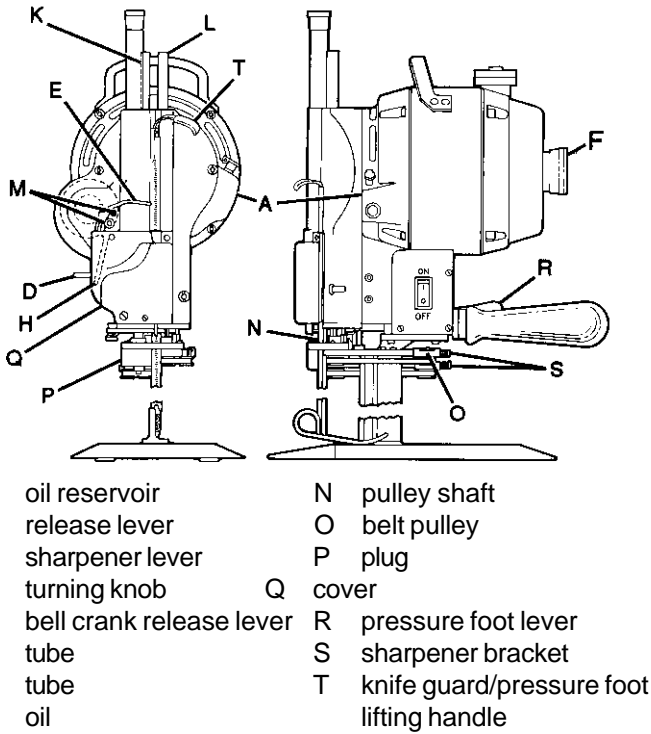

Figure 2. Controls and Adjustments
1. Check that the electrical supply current and voltage that the machine is connected to are the same as stamped on its name plate. For three-phase machines, also check that the direction of rotation is correctly set by the turning knob (Figure 2, F). Refer to the tag attached to all three-phase machines for detailed instructions.
3. Make sure that the sharpener is in the locked position. To do this, push in the turning knob (Figure 2, F). While depressing the turning knob, turn the machine over a few revolutions by hand to see if the knife reciprocates easily. If the knife does not move easily, the sharpener may be in the unlocked position.
4. To lock the sharpener in place, lift the release lever (Figure 2, D) and press the sharpener lever (Figure 2, E) to release the sharpener. Raise the sharpener bracket (Figure 2, S) by hand to lock it in place. Once the sharpener is locked in place, you may disengage the release lever and sharpener lever. Repeat step 3 to ensure that the sharpener is now locked. If not, repeat this step.
7.2 Press the bell crank release lever (Figure 2, H) to
2. Raise the knife guard/pressure foot by depressing the pressure foot lever (Figure 2, R) and lifting the knife guard/pressure foot lifting handle (Figure 2, T). Raise the pressure foot only enough to clear the material being cut.
4. Using the pressure foot lever (Figure 2, R) and the knife guard/pressure foot lifting handle (Figure 2, T), lower the pressure foot so that it is slightly above the material being cut. This will prevent the material from reciprocating.
6. When you are not making a cut, or when the machine is not in use, keep the knife guard/pressure foot lowered to the baseplate by depressing the pressure foot lever (Figure 2, R).
2. Make sure the knife guard/pressure foot is lowered to the baseplate by depressing the pressure foot lever (Figure 2, R).
Remove the cover (Figure 2, Q) and clean any lint from around the screw mechanism in the sharpener.
1. Place two drops of oil at each of the two locations shown in Figure 2, M. Use an oil can with a small spout. (A suitable oil can is furnished with the machine.)
2. Fill the oil reservoir (Figure 2, A) for continuous use. If you only use the machine intermittently, you can use less oil.
- Tubes at locations shown as Figure 2, K and L.
- Pulley shaft shown as Figure 2, N.
- Belt pulley shown as Figure 2, O.
2. Remove the plug (Figure 2, P) and insert a grease tube. Squeeze an amount of grease approximately the size of a pea into the opening.
2. Drop the knife guard/pressure foot using the pressure foot lever (Figure 2, R on page 3), located next to the machine operating handle.
3. Press the sharpener lever (Figure 2, E) downward with a slow, firm pressure to engage the sharpening mechanism. Too fast a lever action may cause the lever to lock. If this occurs, lift the release lever (Figure 2, D) and start over again.
2. Using the turning knob (Figure 2, F) raise the blade to top position.